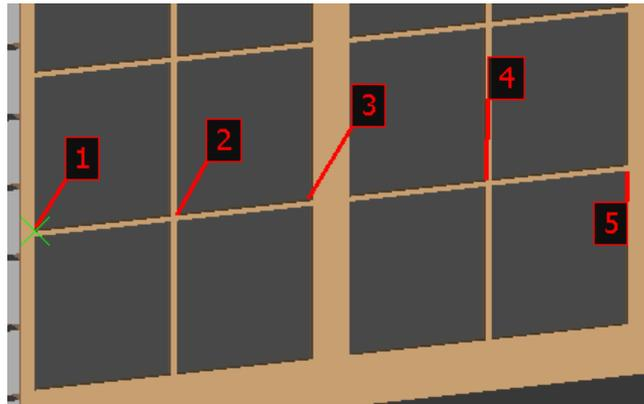

Figure 3-38 The cursor placed at point 1
2. Place the cursor on point **1** and click when the snap to vertex cursor appears, as shown in Figure 3-38.